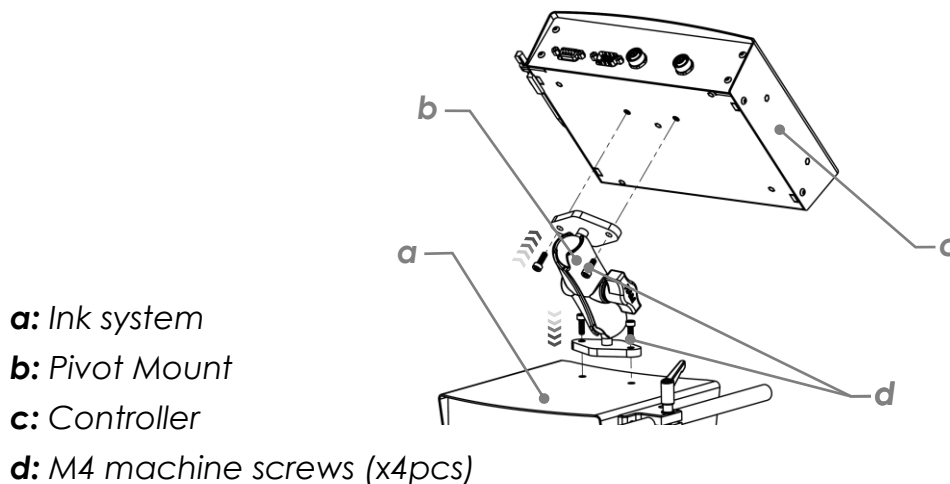

Figure 14
- Align the holes on the back of the controller with other two holes on the controller pivot mount and use two M4 screws to fix it in place (see Figure 14).